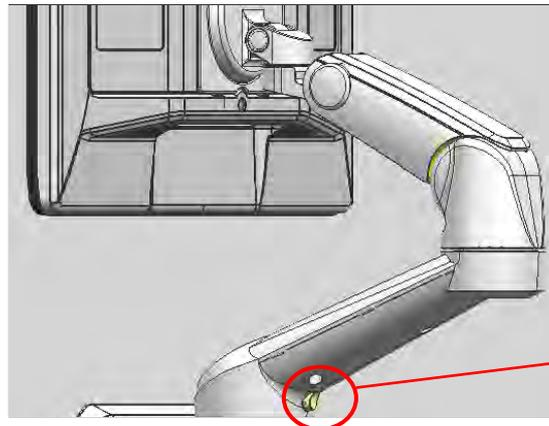
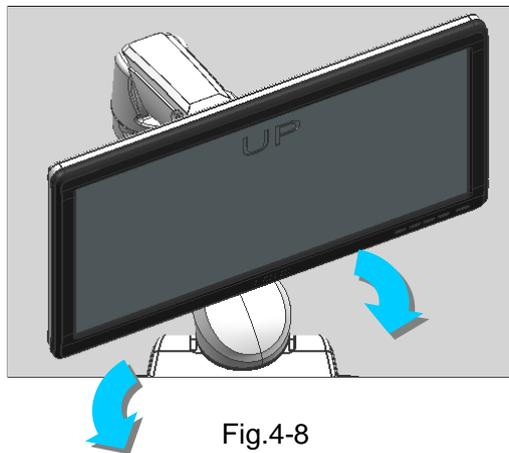

Fig.4-7
Fig.4-8
- d) After completing the above installation, press the button under the arm (see Fig. 4-7), and turn the entire lower arm to the left or right, as shown in Fig. 4-8.